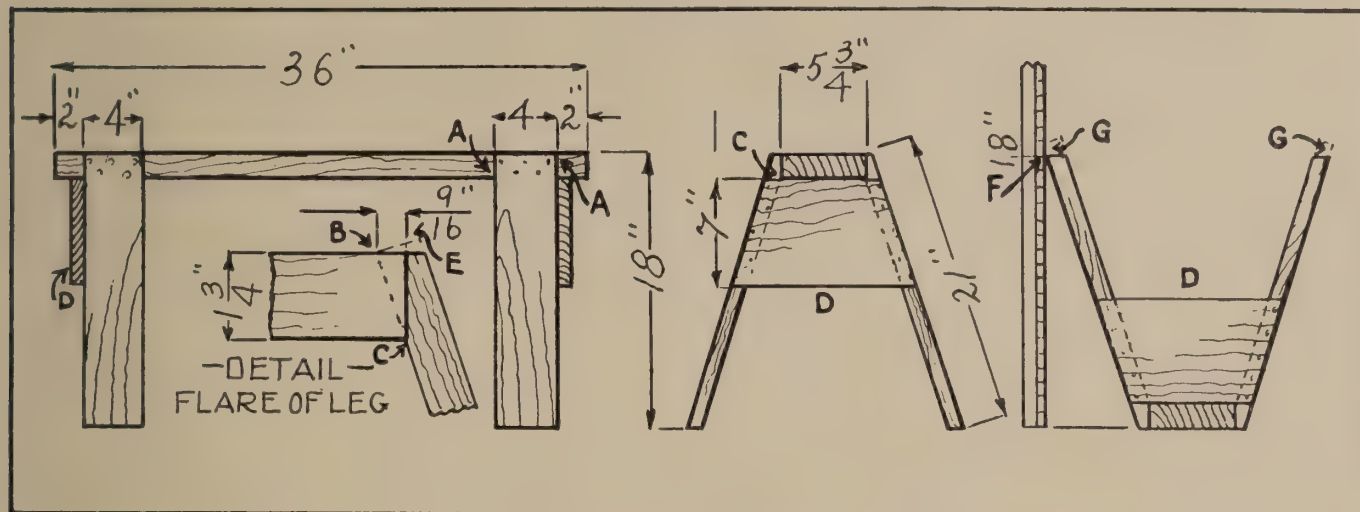
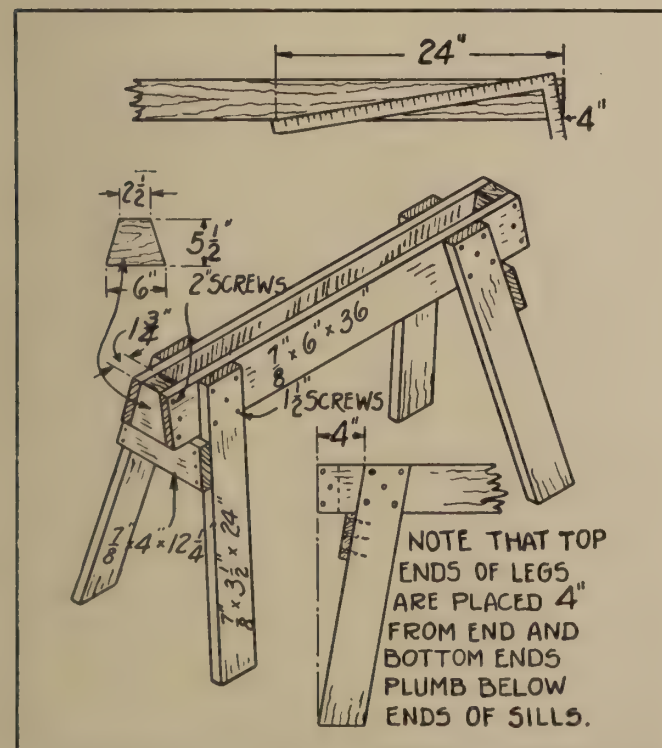

Fig. 11—Every farm shop needs two or more of these handy saw horses.
Fig. 12—Open-top of saw horse for shop work.
WITH a good shop space provided and the essential tools purchased and assembled, the farm mechanic is ready to build the working equipment for his shop. The first equipment needed is a pair of saw horses, which usually are made of pine, spruce, or some other light and tough wood. The saw horse shown in Fig. 11 is simple and easily made and yet will give excellent service. It will require the following material:
Step 2—With try-square mark pencil lines A (Fig. 11) to fit the legs and square across the top and each edge.
Many workmen prefer saw horses a trifle higher, and with the legs flared towards the ends as well as outward, to give more stability. Fig. 12 shows an open top saw horse of this type which is quite popular. With the experience gained in constructing the one shown in Fig. 11, the farmer should have no difficulty in building this one. At least two saw horses are required in the shop and an extra pair comes in very handy when working on a hay rack or other large piece of farm equipment.